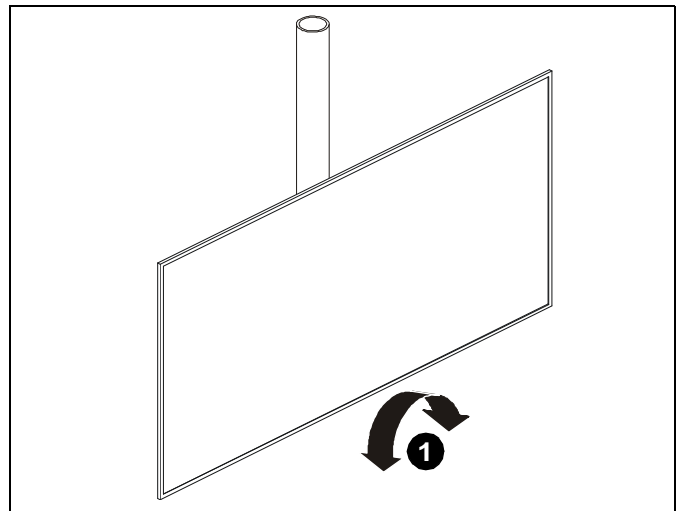

Figure 9
- Grasp the display on both ends and roll slightly left or right. (See Figure 9)